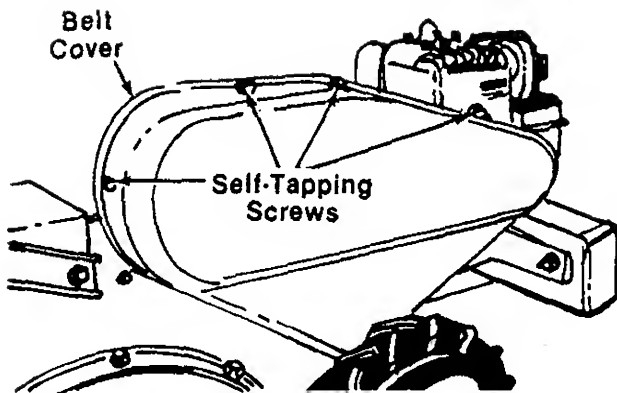

FIGURE 19.
1. Remove belt cover by removing the four self-tapping screws. See figure 19.